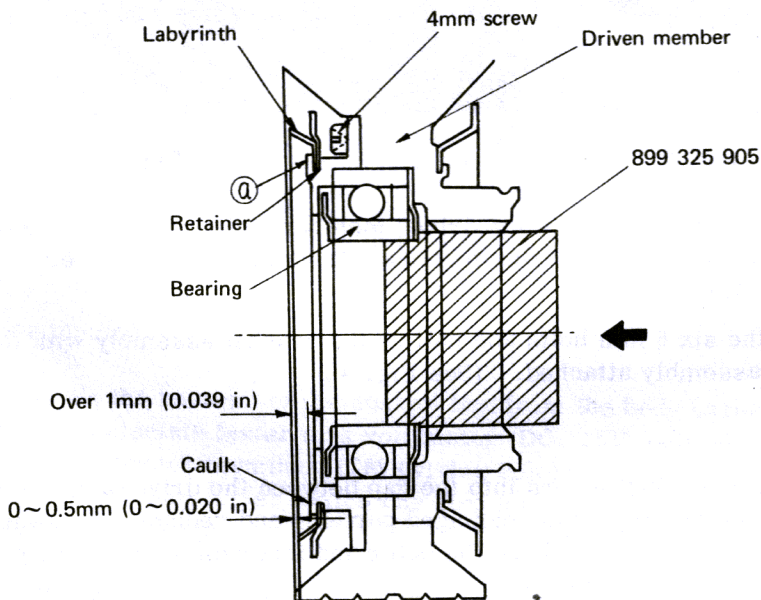

Fig. 44
(3) Raise the caulked parts (Ⓐ part in Fig. 44) with a chisel and remove the labyrinth from the retainer. Remove the six 4 mm screws to detach the retainer.
(4) Push out the ball bearing by using 899325905.
(c) Fit the ball bearing into the driven member by using 899325905 and attach the new retainer with the six 4 mm screws. Then, place the new labyrinth on the retainer and caulk it as shown in Fig. 44.